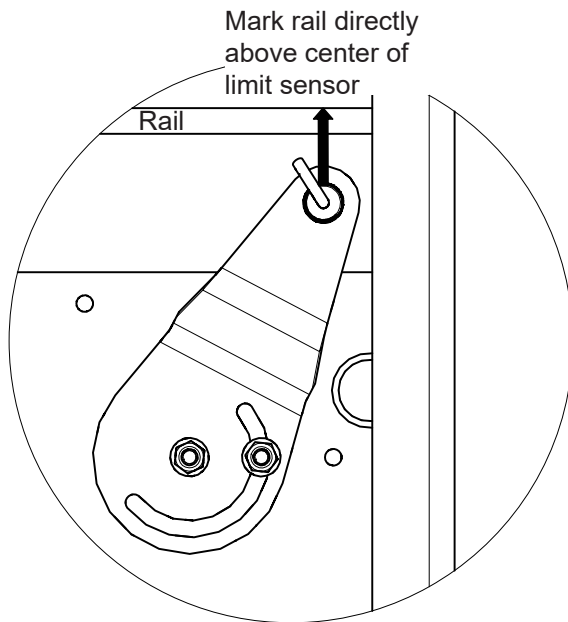

Figure 8. Mark Dual Limit Sensor Location on Drive Rail
3. Mark location of the center of the dual limit sensor on the drive rail (Figure 8).